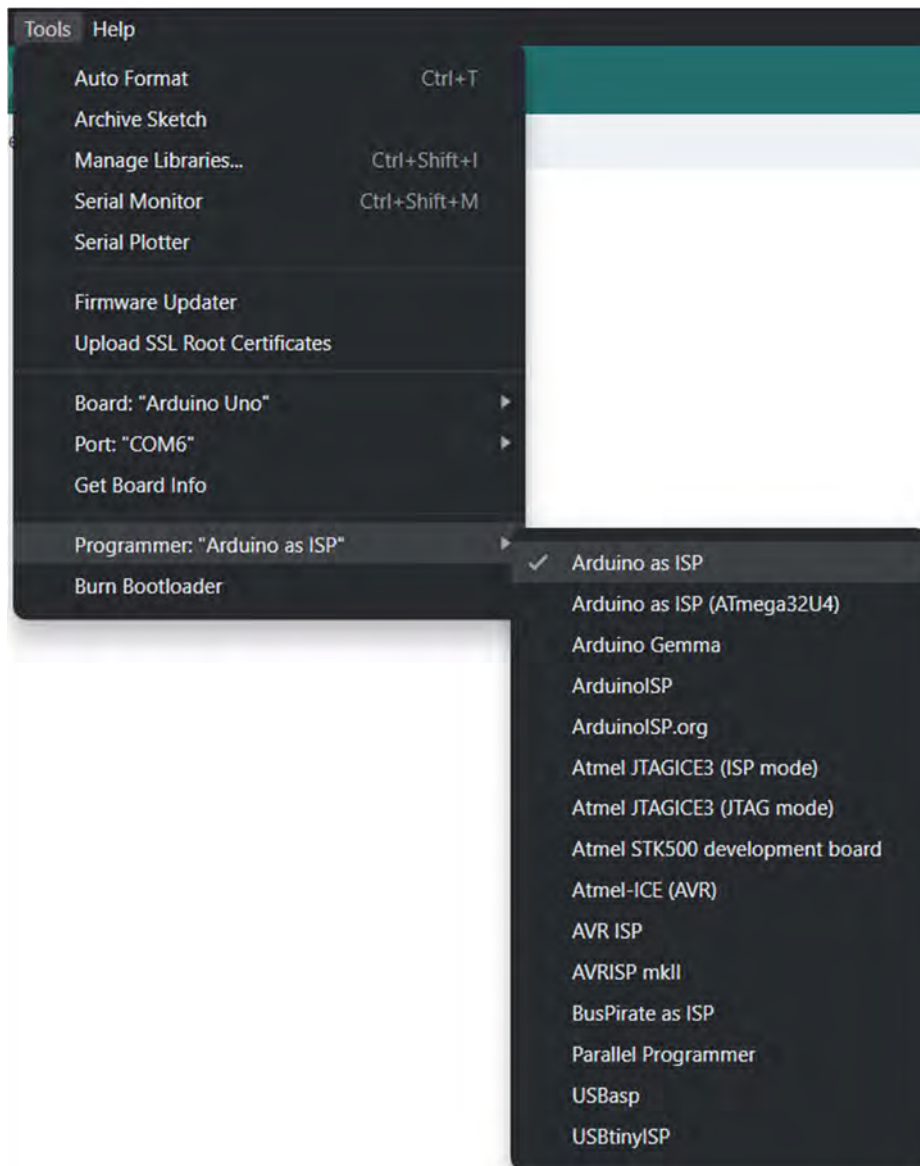

Figure 17: Programmer selection for the Uno R3+.
- **Programmer selection:** Under “Tools” and “Programmer:” select “Arduino as ISP”, as shown in Figure 17.